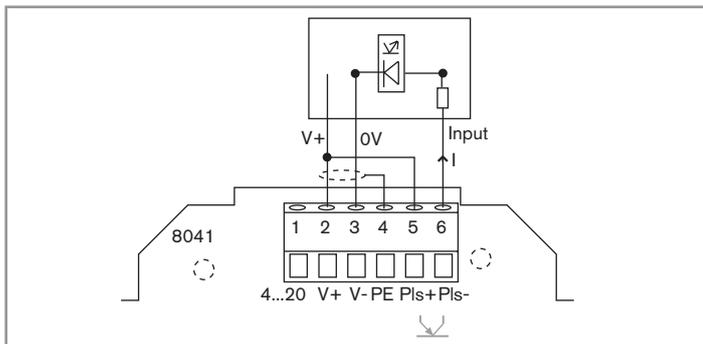
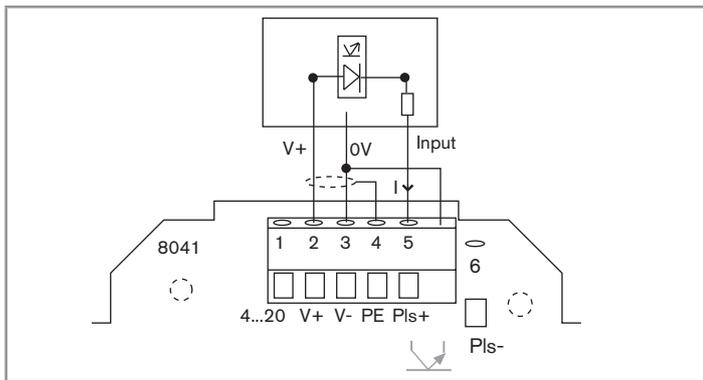

Fig. 19 : PNP connection of the frequency output to a PLC
Fig. 20 : NPN connection of the frequency output to a PLC
- to a PLC in PNP or in NPN mode (see Fig. 19 and Fig. 20) ;